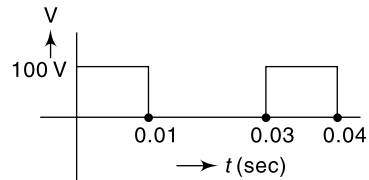

Fig. 5.71 Waveform for Ex. 5.115
5.115 Obtain average and effective value of waveform shown in Fig. 5.71.